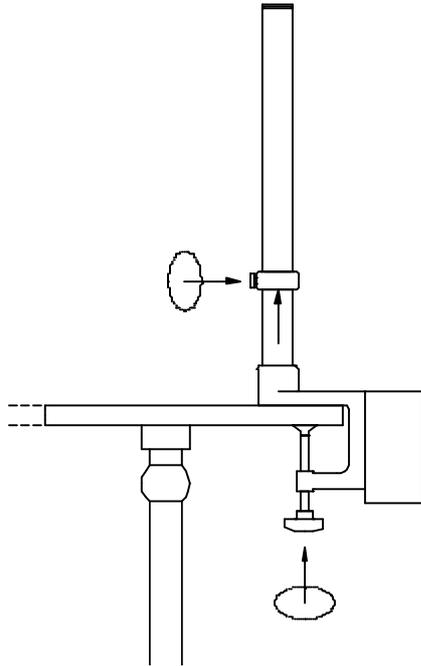

Figure 3 Attaching the clamp to the mounting surface
3. Fix the clamp to the operating table about 40 cm from the head of the table. The clamp may be fixed on either side of the table. Make sure that the clamp is pressed firmly against the side of the table before tightening (see figure 3).
4. Tighten the safety clamp at a point about midway up the pillar (see figure 3).